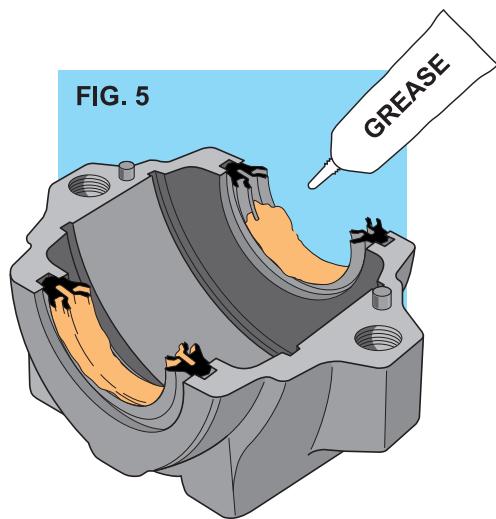

FIG. 5
12. The other seal halves to be fitted in seal groove of the two bearing housing caps and then fill grease in space between inner sealing lips of four lip seal. FIG 5
14. Finally place the caps on the housing bases and tighten the cap mounting bolts to the torque specified for each size in Table I. FIG 5
11. Put the shaft with two bearings in the two housing bases. FIG 5
13. Finally place the caps on the each housing base and tighten the cap mounting bolts as per the torque specified for each size, refer Table I. FIG 5